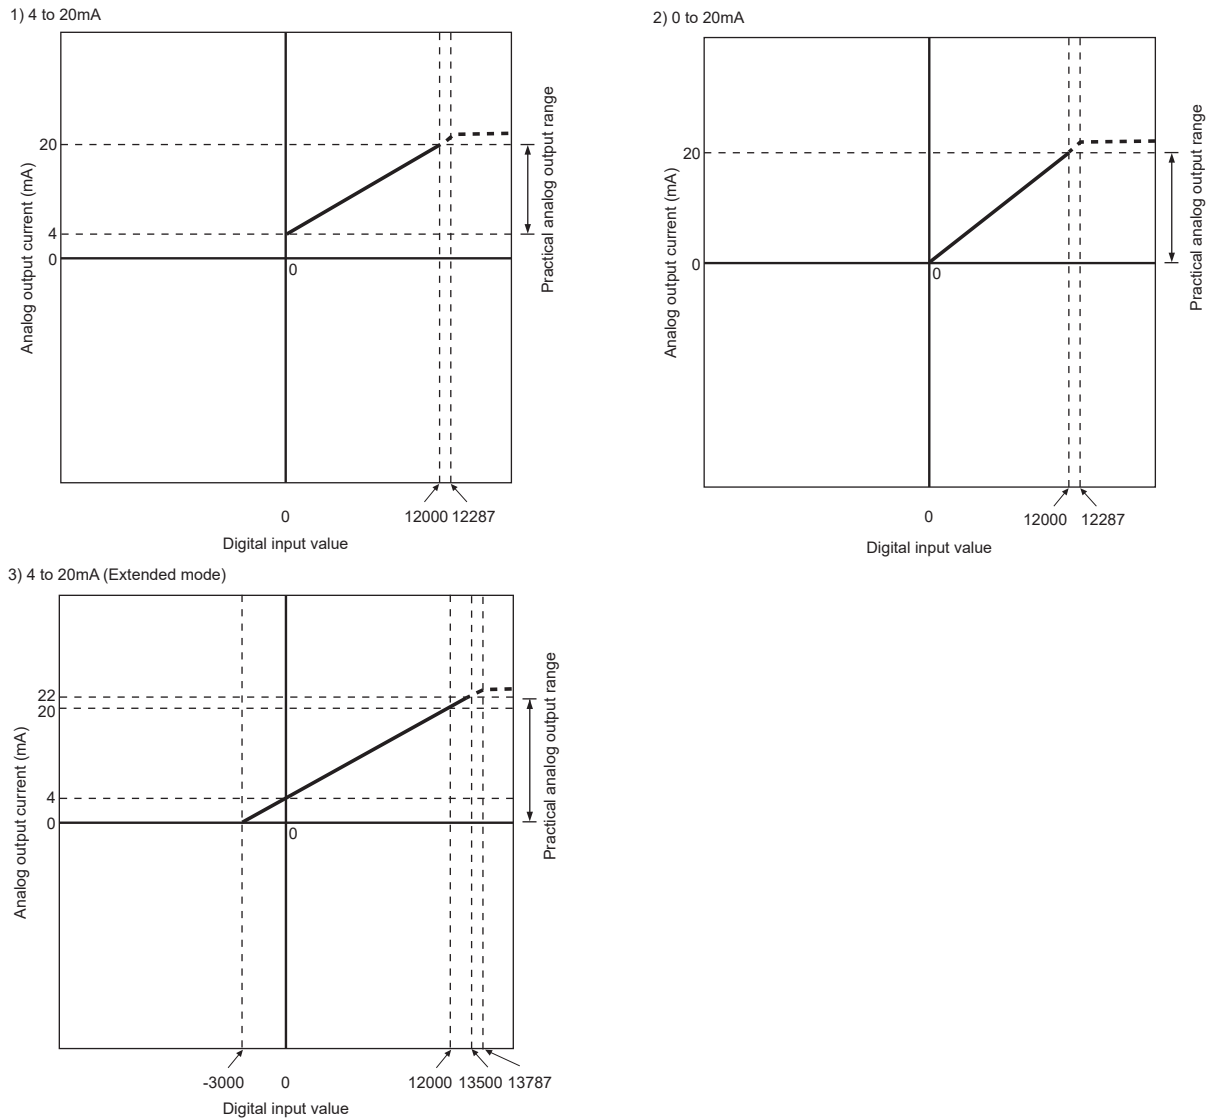

Figure 3.2 Current output characteristic
Figure 3.2 shows a graph of the current output characteristic.
<p>(1) Set within the digital input range and analog output range for each output range. If these ranges are exceeded, the maximum resolution and accuracy may not fall within the performance specifications. (Avoid using the dotted line area shown in Figures 3.2.)</p> <p>(2) Set the offset/gain values for the user range setting1 * within a range in which the following conditions are satisfied.</p> <p>(a) Setting range is from 0 to 22 mA</p> <p>(b) $\{ (\text{Gain value}) - (\text{Offset value}) \} > 10\text{mA}$</p>